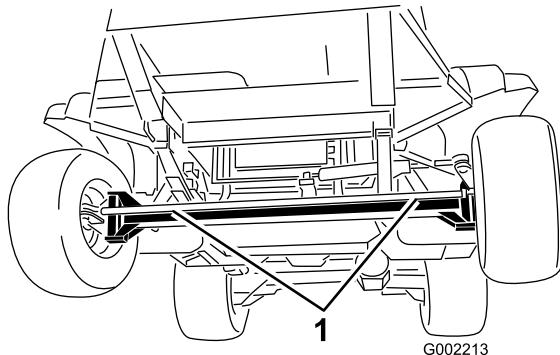
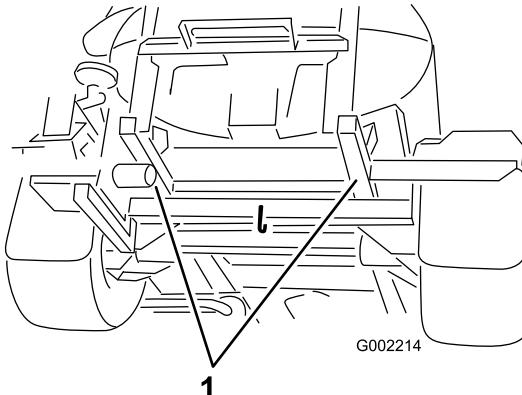

Figure 95
Figure 96
4. Affix a tow line to the frame; refer to the front and rear towing points (Figure 95 and Figure 96).